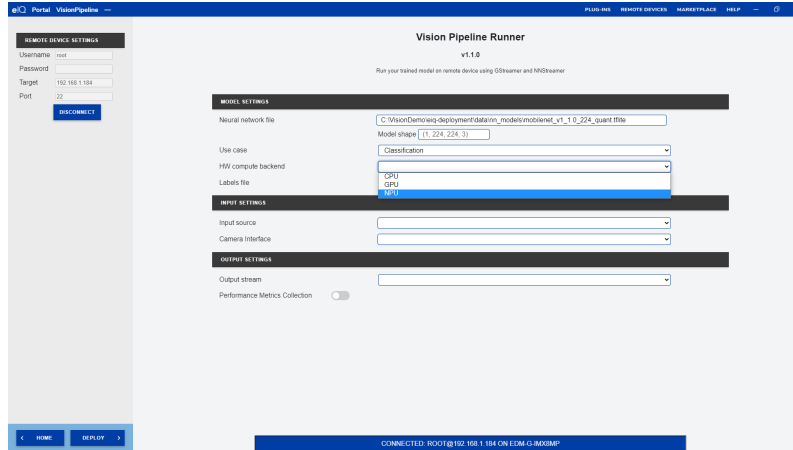

Figure 6.21.: Vision Pipeline Extension: MHW Backend Selection
3. If the SoC supports multiple hardware inferences (like the i.MX 8MPlus SoC), the desired hardware inference must be selected (Figure 6.21.).